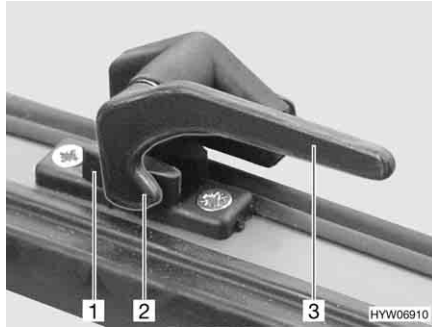

Fig. 78 Catch lever in "closed" position
- Turn the catch lever (Fig. 78,3) a quarter turn towards the centre of the window.
- Turn the catch lever (Fig. 78,3) a quarter turn towards the window frame. The locking catch (Fig. 78,2) is located on the inside of the window catch (Fig. 78,1).
- "Firmly closed" (Fig. 78).